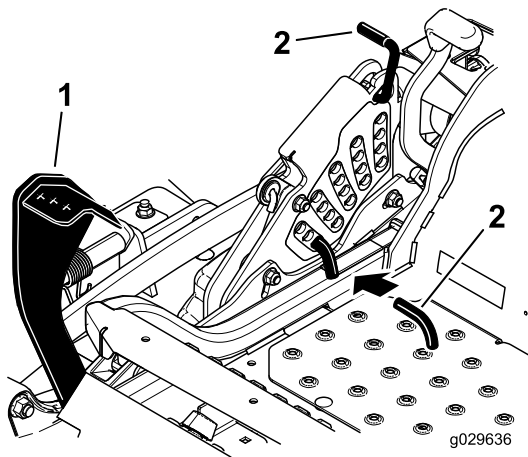

Figure 91
5. Push the deck-lift pedal all the way forward and the deck latches at the 14 cm (5 1/2 inch) TRANSPORT position (Figure 91).